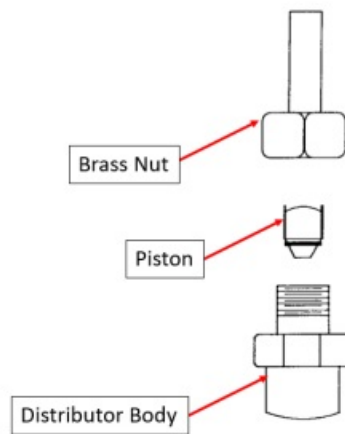

Figure 4: Piston (to be removed)
2. Remove piston/orifice from inside of distributor body and discard. See figure 4.